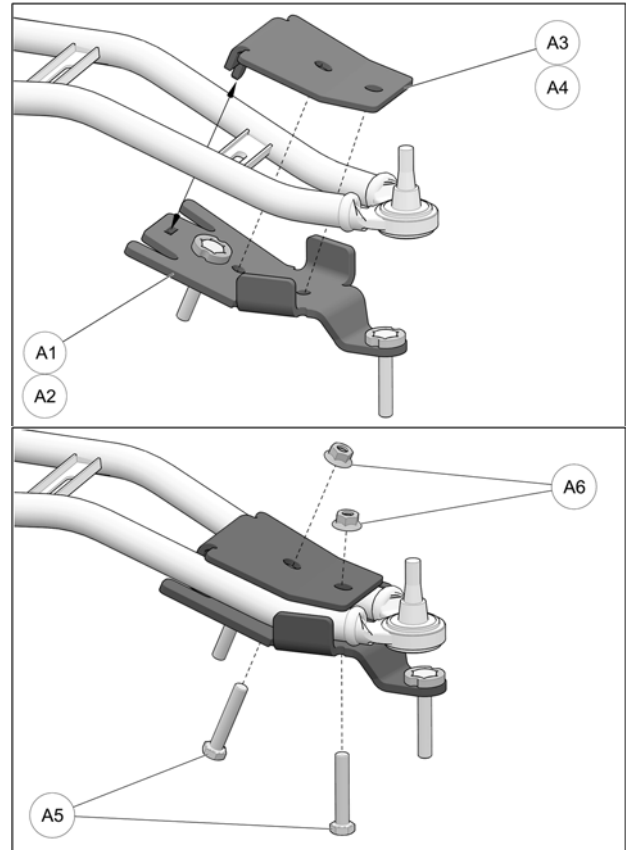

Fig. 15
6. Position bottom part of anchor bracket (A1-A2) assembly under front lower suspension arm, as shown in the figure below. Position bracket cover (A3-A4) over suspension arm and insert tenon at one end of cover in the mortise cut out of bottom part. Insert the M10x55mm bolts (A5) from the bottom and secure the two parts together with the nuts (A6) provided. Tighten assembly to 50 N•m [37 lb•ft] of torque. Refer to Fig. 15